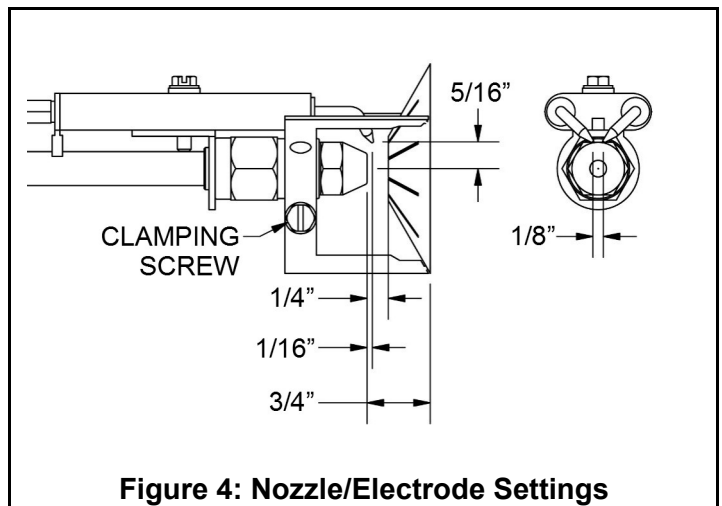

Figure 4: Nozzle/Electrode Settings
1. Remove the gun assembly and loosen the clamping screw (See Figure 4) on the flame retention assembly and slide the assembly off the adapter.